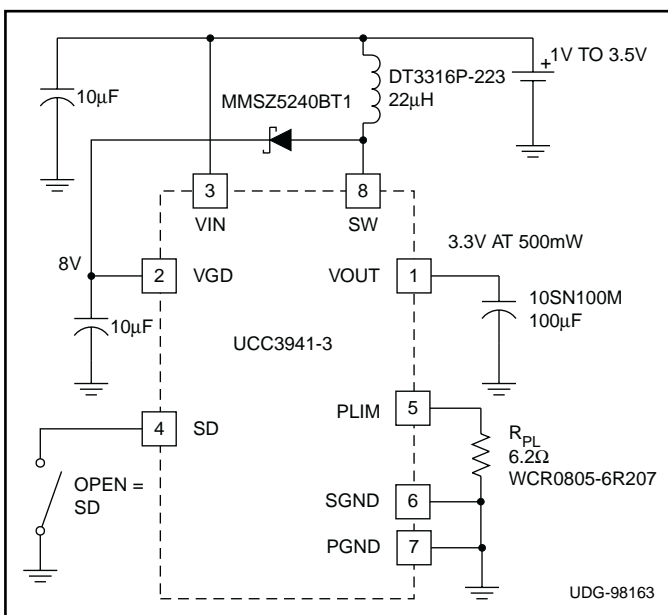

Figure 3. Dual output synchronous boost 3.3V version.
**Note 1:** Performance from application circuit shown in Figures 3 - 5 guaranteed by design and alternate testing methods, but not 100% tested as shown in production.
waveforms for the application circuit shown in Fig. 3. A single 22μH inductor provides the energy pulses required for a highly efficient 3.3V converter at up to 500mW output power.